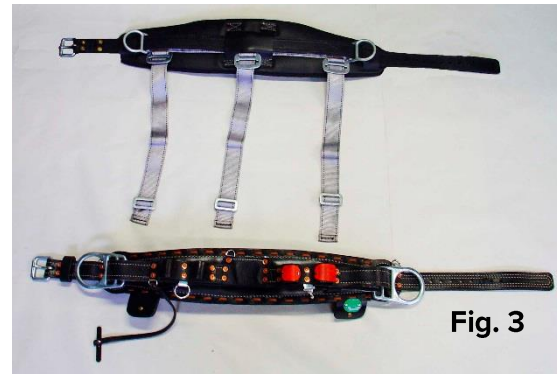

Fig. 3
- Adjust the Body Belt Attachment Straps of the Gut Strap so they have sufficient slack to thread through the Body Belt (Fig. 3).